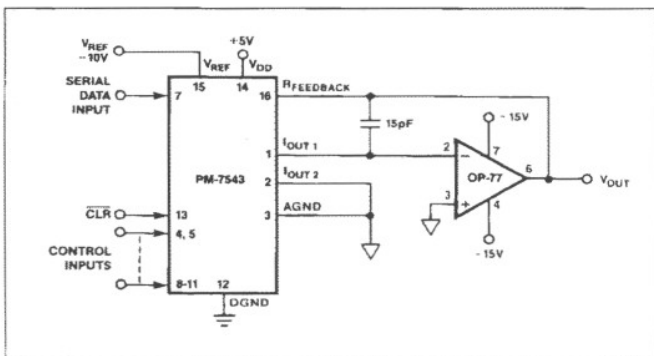

FIGURE 7: Unipolar Operation with High Accuracy Op Amp (2-Quadrant)
1. Phase compensation (see Figures 7 and 8).
In most applications, linearity depends upon the potential of  $I_{OUT1}$ ,  $I_{OUT2}$ , and AGND (pins 1, 2, and 3) being exactly equal to each other. In most applications, the DAC is connected to an external op amp with its noninverting input tied to ground (see Figures 7 and 8). The amplifier selected should have a low input bias current and low drift over temperature. The amplifier's input offset voltage should be nulled to less than  $\pm 200\mu V$  (less than 10% of 1 LSB).
The circuit shown in Figures 7 and 8 may be used with an AC or DC reference voltage. The circuit's output will range between 0V and approximately  $-V_{REF}$  (4095/4096) depending upon the digital input code. The relationship between the digital input and the analog output is shown in Table 2. The  $V_{REF}$  voltage range is the maximum input voltage range of the op amp or  $\pm 25V$ , whichever is lowest.
1. Nominal full scale for the circuits of Figures 7 and 8 is given by  $FS = -V_{REF} \left( \frac{4095}{4096} \right)$ .
2. Nominal LSB magnitude for the circuits of Figures 7 and 8 is given by  $LSB = V_{REF} \left( \frac{1}{4096} \right)$  or  $V_{REF} (2^{-11})$ .